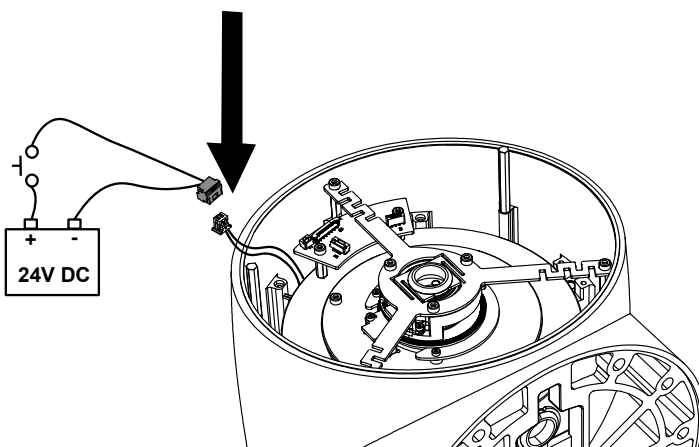

Figure 2-5: Connection of 24V DC external power supply for joint 1 and 2 of Zu20 and Zu30
4. Connect the 24V DC external power supply with automatic reset switch to the terminal of the brake wire (shown in Figure 2-5 below). Type of the terminal connecting external power is Molex 51021-0200.